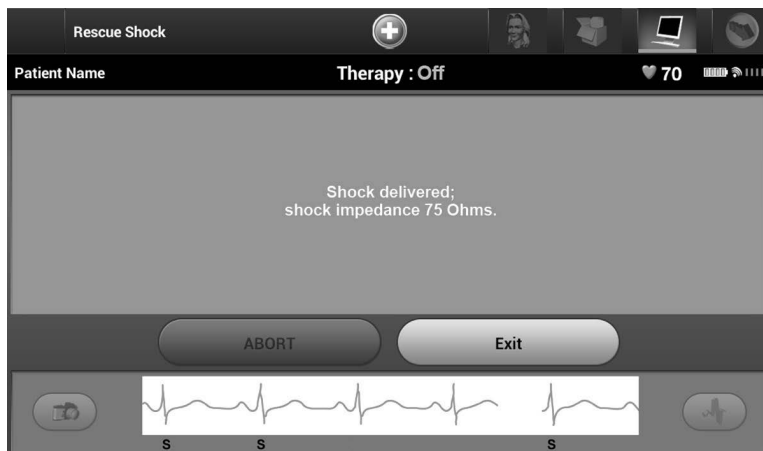

Figure 55: *Confirmation of Rescue Shock delivery*
3. A confirmation screen will appear with notification that the shock was delivered successfully along with the corresponding shock impedance (Figure 55).